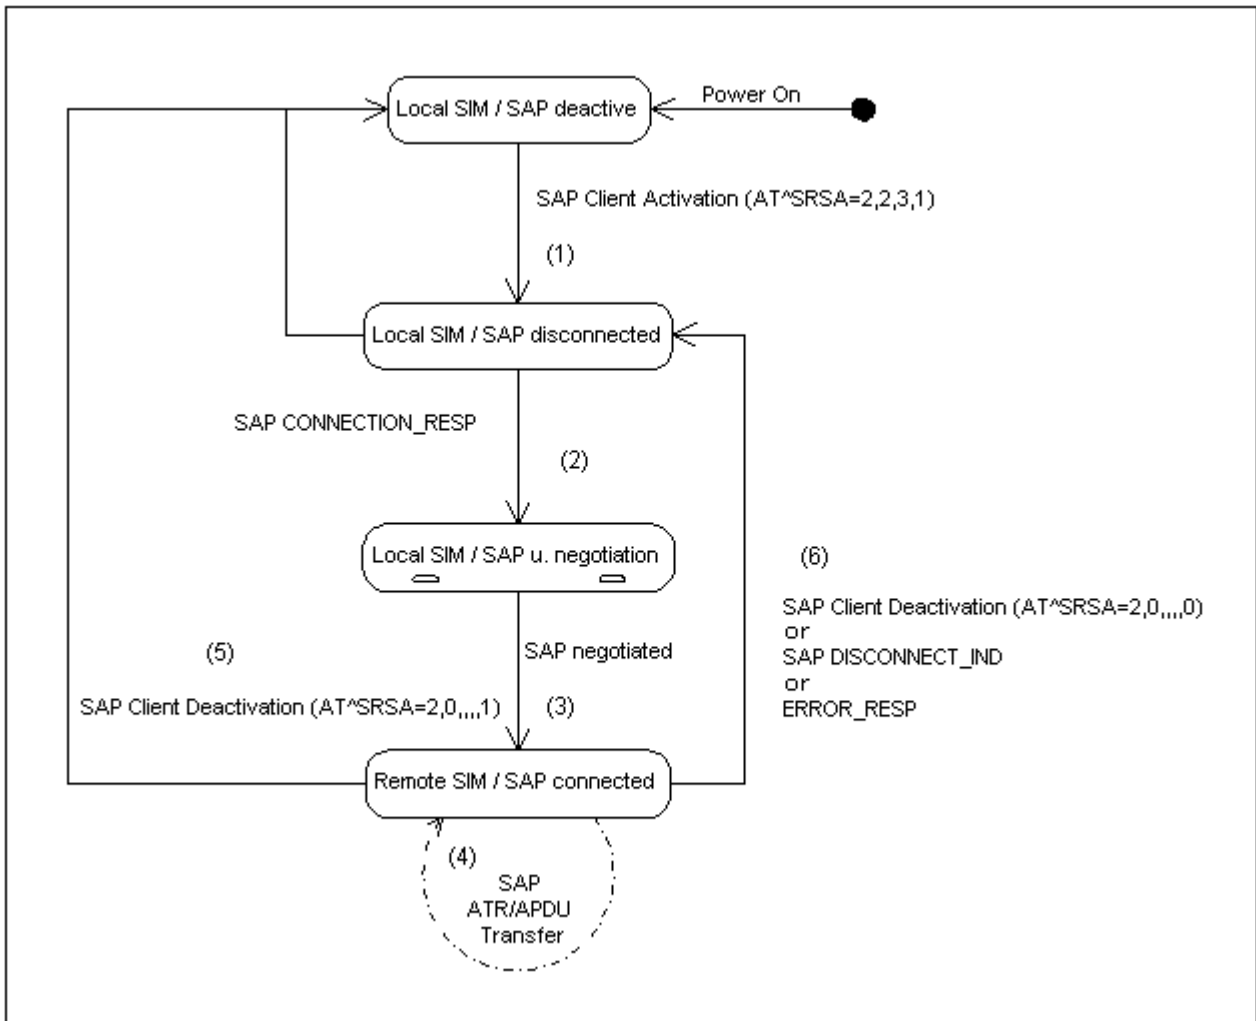

Figure 15.4: SIM usage states of SAP client
After SAP server activation (see (1) in Figure 15.4, SIM usage states of SAP client) the ME waits for the SAP message CONNECTION\_REQ. The server will use its local SIM until the parameter negotiation has been accomplished successfully.